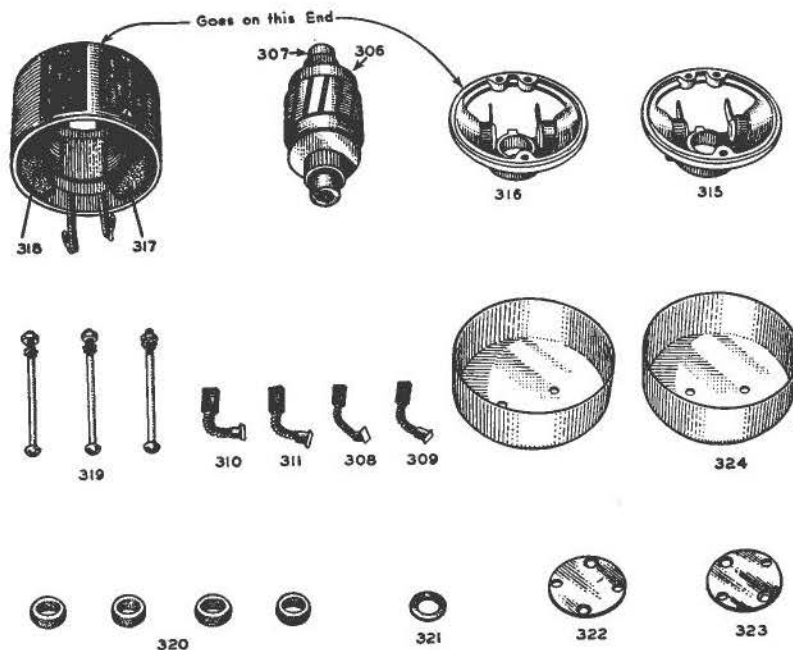

Figure 103. Assemblies of DM 28H Dynamotor
When necessary to replace the ball bearings or turn down the commutators, first remove the brushes (308, 309, 310, 311), Figure 103, from their cartridges. Remove the nuts from the tie rods (319) which hold the bearing end-bells (315 and 316) and pull the end-bells away from the field coil assembly (317, 318). The armature (306) can now be taken out. Examine the brushes to see that they have worn properly and are free from hard spots. Should such spots be apparent (they generally cause grooves in the commutator surface) the brush should be replaced and the commutator smoothed down. The ball bearing retainers and the shaft are machined for very snug fits, but a slight tapping will loosen them. To remove the bearing retainers from the end-bells, use two small screwdrivers as wedges between the outer ball race and the end-bell. If the grease slinger becomes bent during removal, it should be straightened and replaced on the shaft before replacing the bearing.